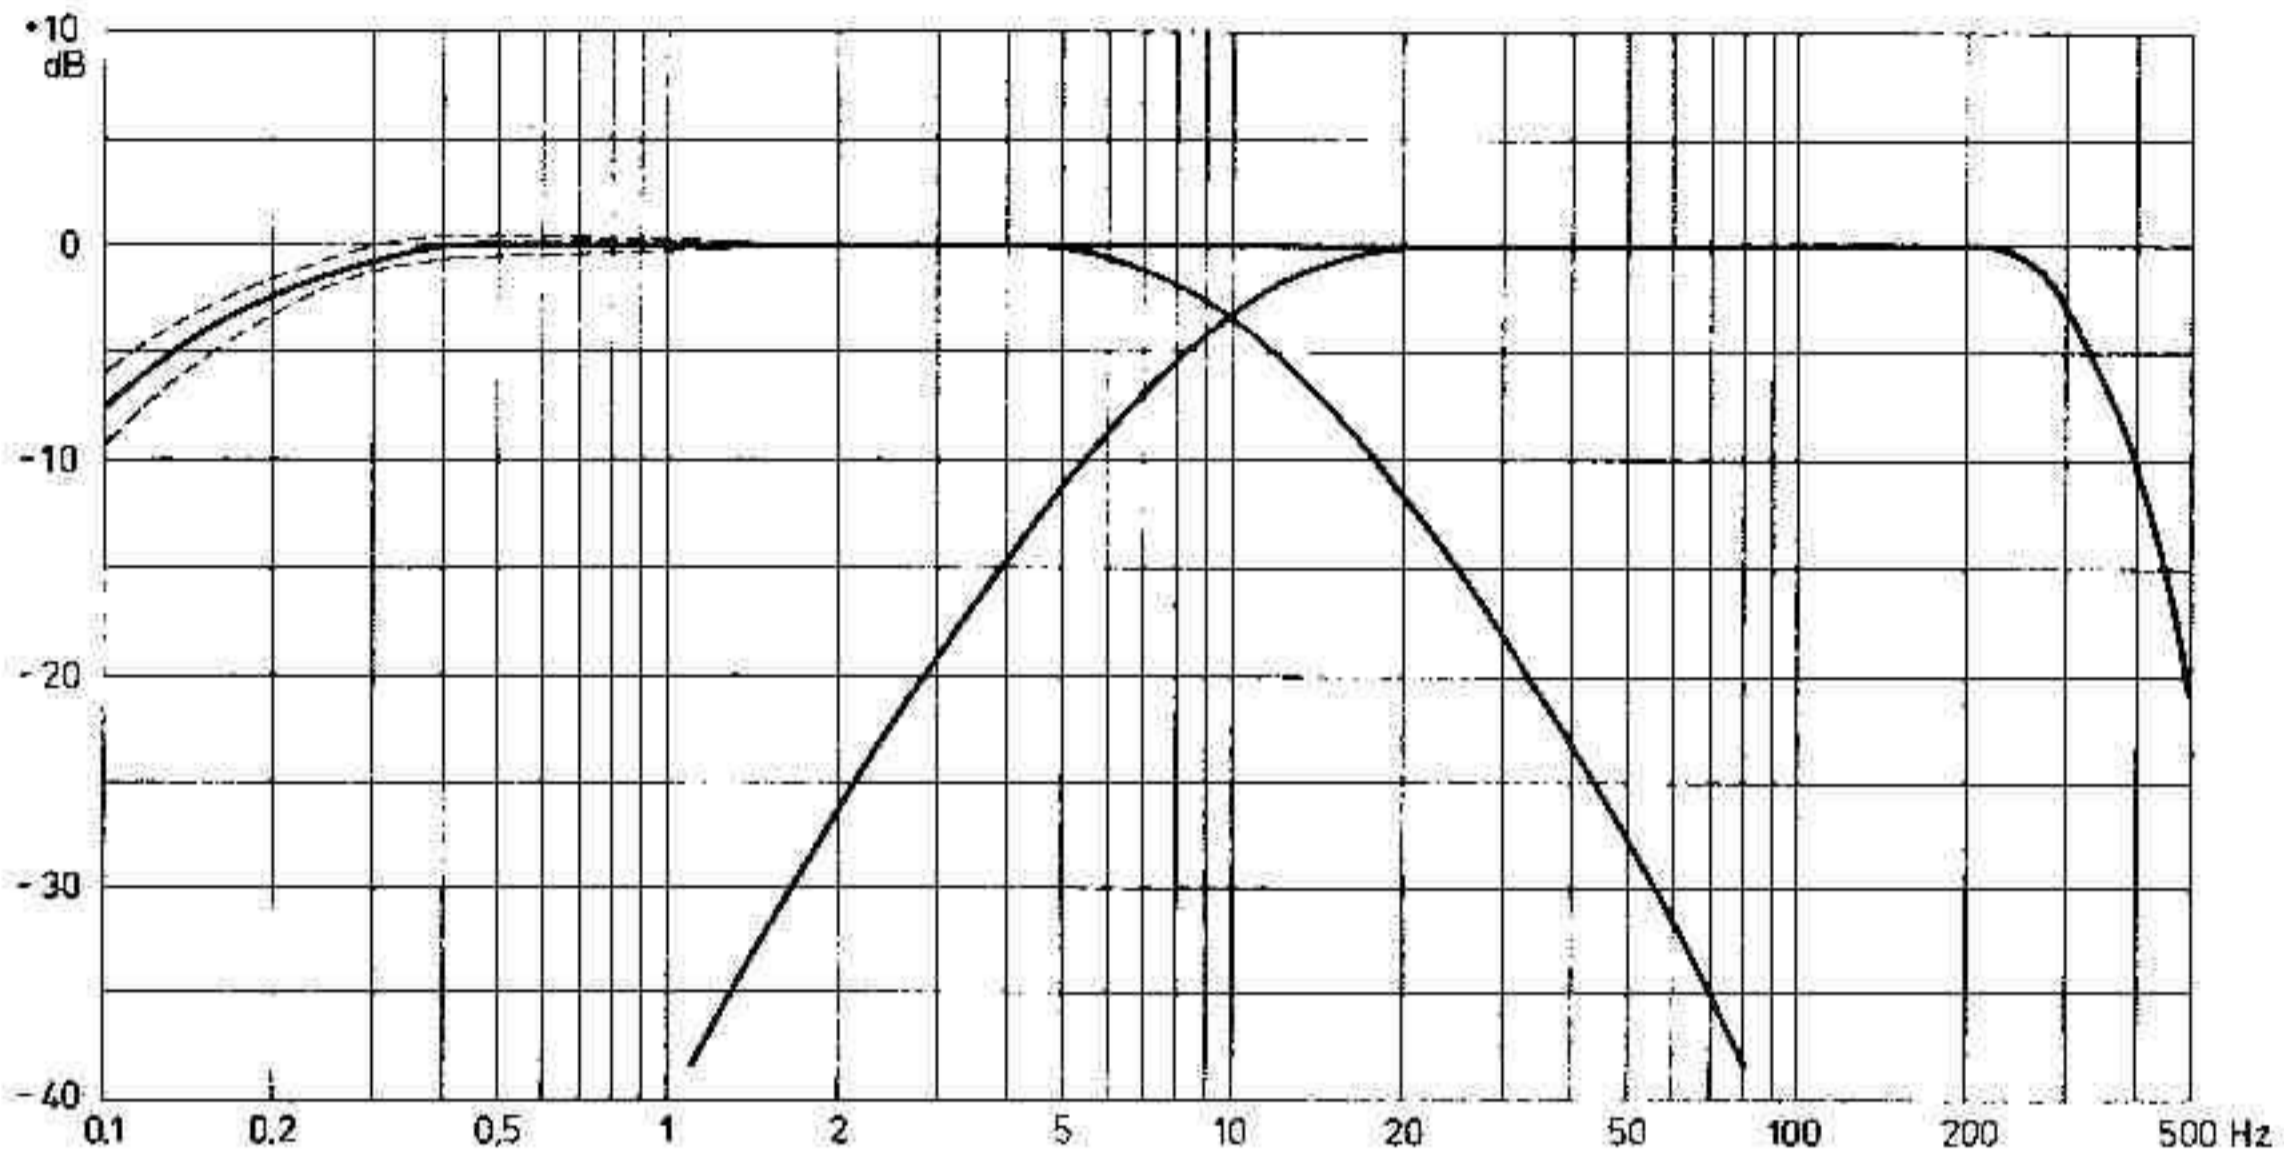

Fig. 7. Wow and flutter filter, linear (WOW, FLUTTER and W+F).
The frequency spectrum can be divided into wow and flutter depressing the WOW and FLUTTER buttons of the filter function switch (17). The crossover frequency is 10 Hz. Wow thus is defined as the frequencies below 10 Hz; and flutter is defined as the frequencies above 10 Hz (Fig. 7). The weighted filter is switched off by setting the filter function switch (17) to the LIN position, providing linear measurement of the frequency spectrum.
3. The DC WOW/FLUTTER output voltage is analogous to the FLUTTER meter (6) deflection and identical to the rectified signal after the meter circuit (Fig. 7). The output voltage is equal to 1 V DC at full scale.